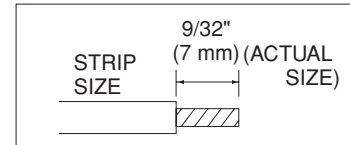

Fig. 26
- (1) Cut the wire end with a cutting pliers, then strip the insulation to expose the wire about $9/32$ " (7 mm). See the label (Fig. 26) near the terminal plate.
- (2) Using a screwdriver, loosen the terminal screw on the terminal plate.
- (3) Insert the wire and tighten the terminal screw completely using a screwdriver.